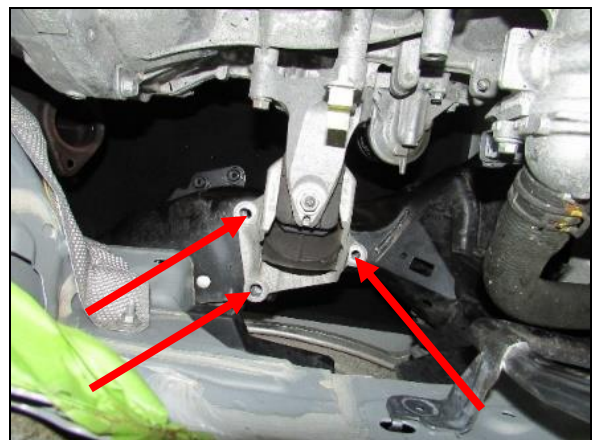

Figure 6
10. On the RH side, remove (x3) 14mm bolt heads that is on the bottom of the motor mount. You can access these under the car (**Figure 6**).